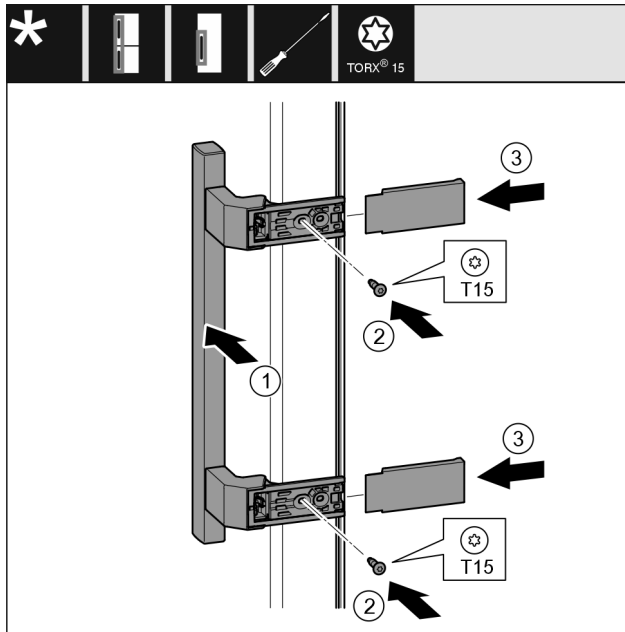

Fig. 42
- Place the handle Fig. 42 (1) on the opposite side.
- Tighten screws Fig. 42 (2) with screwdriver.
- Place the covers Fig. 42 (3) on the side and push them on.